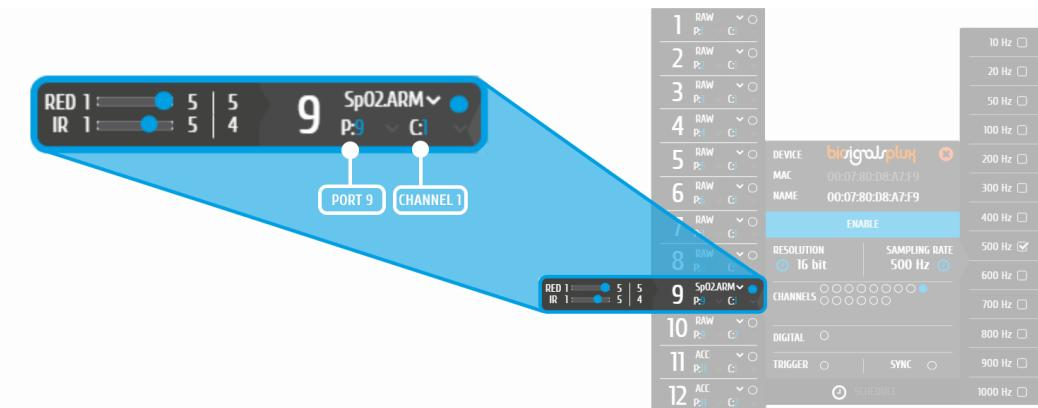

Figure 150: Port and channel number for SpO2 sensor.
In the device's panel, set up channel 9 for signal acquisition, set the port (P) to 9 and the channel (C) to 1 (Figure 150) and select one of the available SpO2 options in the channel's dropdown menu. The different options are designed for different placement areas of the SpO2 sensor. We recommend selecting the available configuration that fits best your needs. The following configurations are available: